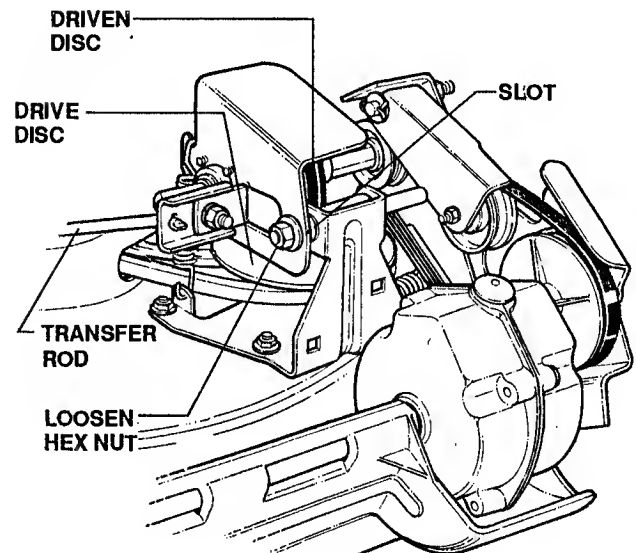

FIGURE 3.14
- To adjust tracking, loosen hex nut shown in Figure 3.14 and move driven disc forward or rearward until the rubber ring contacts the drive disc surface 1/8" in front of the imaginary reference centerline (CL of Drive Disc). Retighten hex nut.